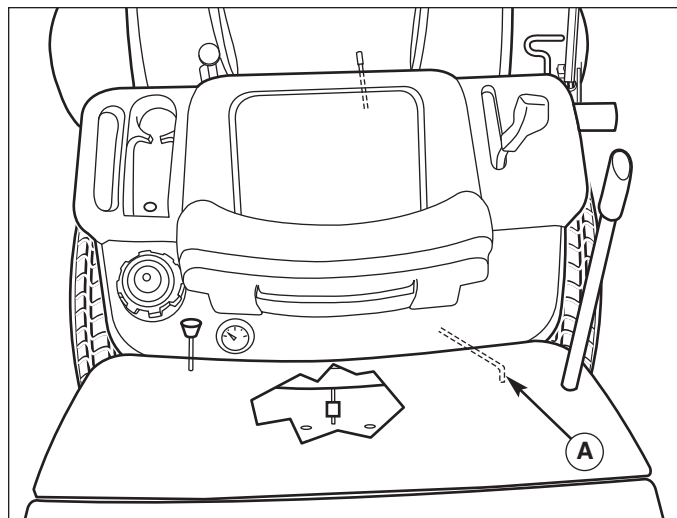

Figure 34. Transmission Release Lever
4. While holding the forward ground speed pedal down, engage and disengage the transmission release valve lever (A, Figure 34) several times.
6. While holding the reverse ground speed pedal down, engage and disengage the transmission release valve lever (A) several times.